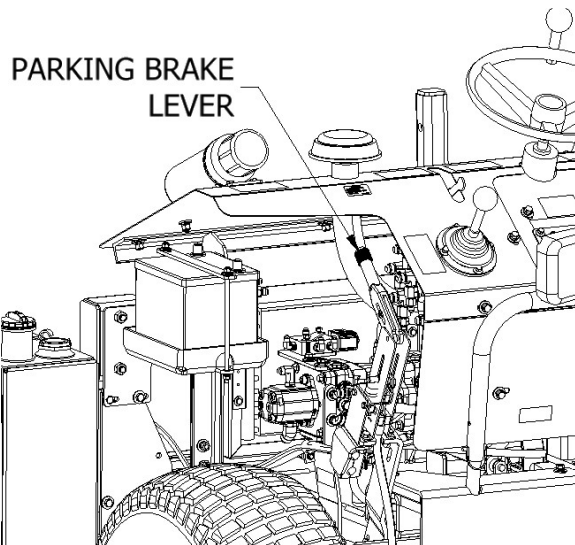

Figure 2.7 – Parking Brake Lever Location
- Apply the parking brake (Figure 2.7) when stopped for any reason.